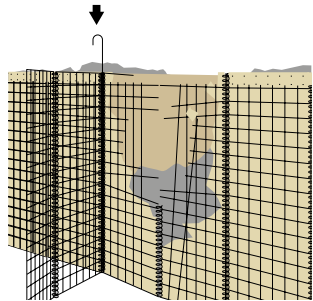

Figure 7
- Interlink the coil on one side with the coil of the existing unit and fit a joining pin (*Figure 7*).